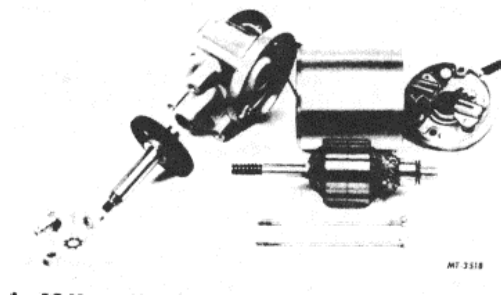

Fig. 10. Motor Housing and Related Parts
Remove the two thru bolts holding the drive end housing (3) and commutator end frame (16) to the wiper motor housing (12). See Fig. 10.
Remove armature (18) and drive end housing (3). See Fig. 10.